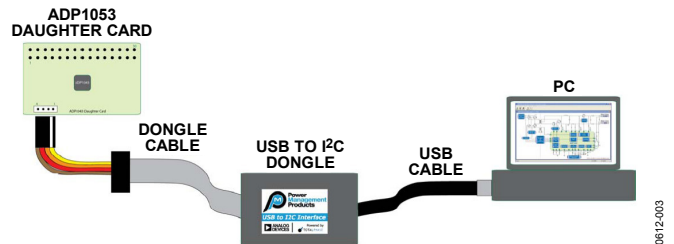

Figure 4. Connecting the ADP1053 Daughter Card to a PC Using the USB-to-I²C Dongle
Figure 4 shows how to use the USB-to-I²C dongle to connect the ADP1053 daughter card to the PC.
2. Connect the cables of the USB-to-I²C dongle to the daughter card and to the PC (see Figure 4).